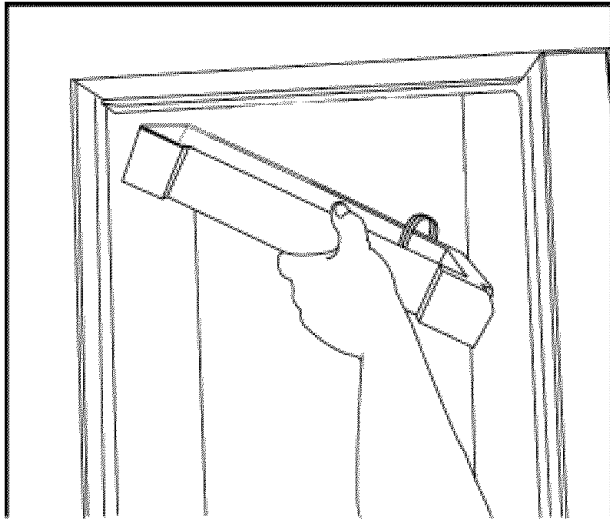

Figure 5
17. Carefully lower the drain pan assembly. (See figure 5).